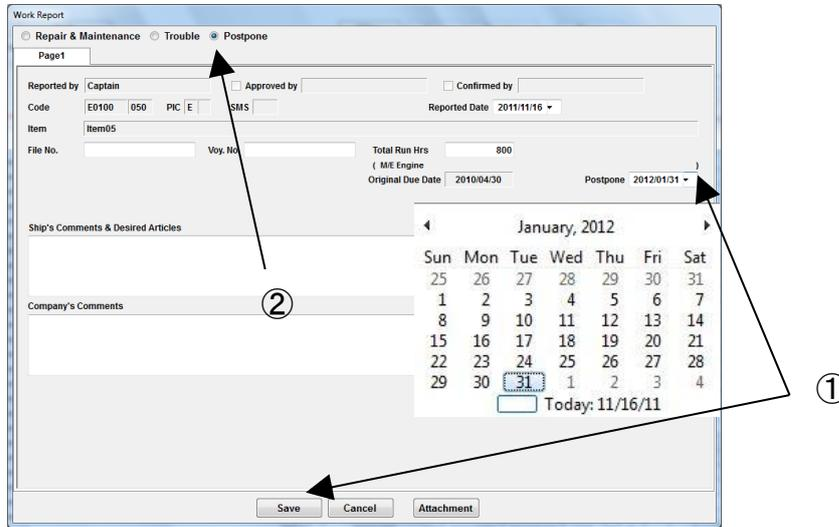

Fig.6-8 Work Report Screen
- (1) On the “Work Report Screen”(Fig.6-8), select [Postpone].
- (2) Select postpone date by [Postpone]pull down menu.